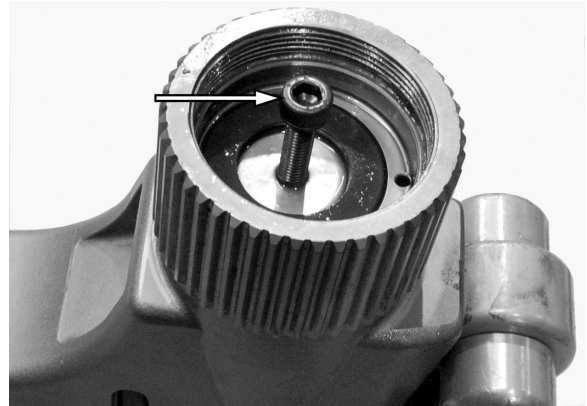

Figure 23. Piston Plug Removal
5. See Figure 23. Remove the piston plug from the end of the piston by screwing an M6 or M8 screw (depending on the wrench model) into the hole in the back of the piston plug, and pulling to remove.